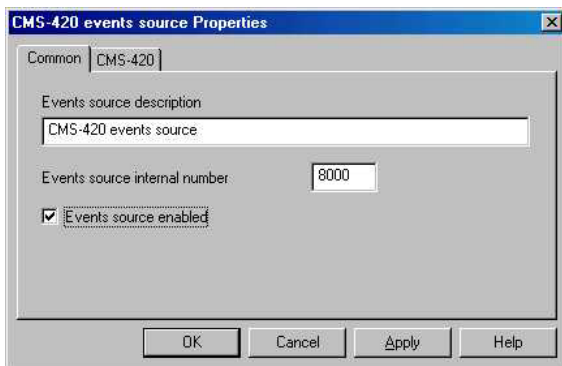

Figure 14 – Decoder/Receiver Properties
- ✦ To view, modify, and enable/disable the Decoder/Receiver from the list, select it and press the **Properties** button (the CMS-420¹ is the system default). The properties screen is displayed (see Figure 14). The following can be modified: